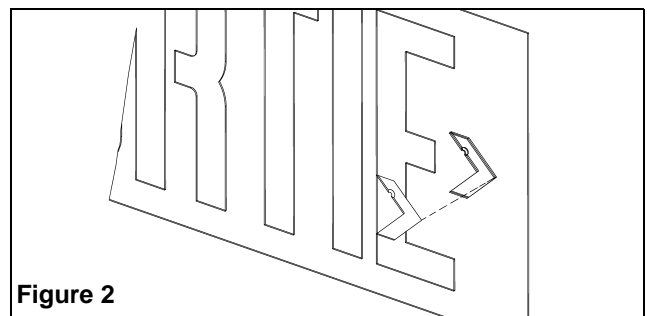

Figure 2
3. Remove directional arrow knockouts in faceplate as required. Place a support on either side of the arrow to be removed and knock out with a screwdriver (see fig. 2).